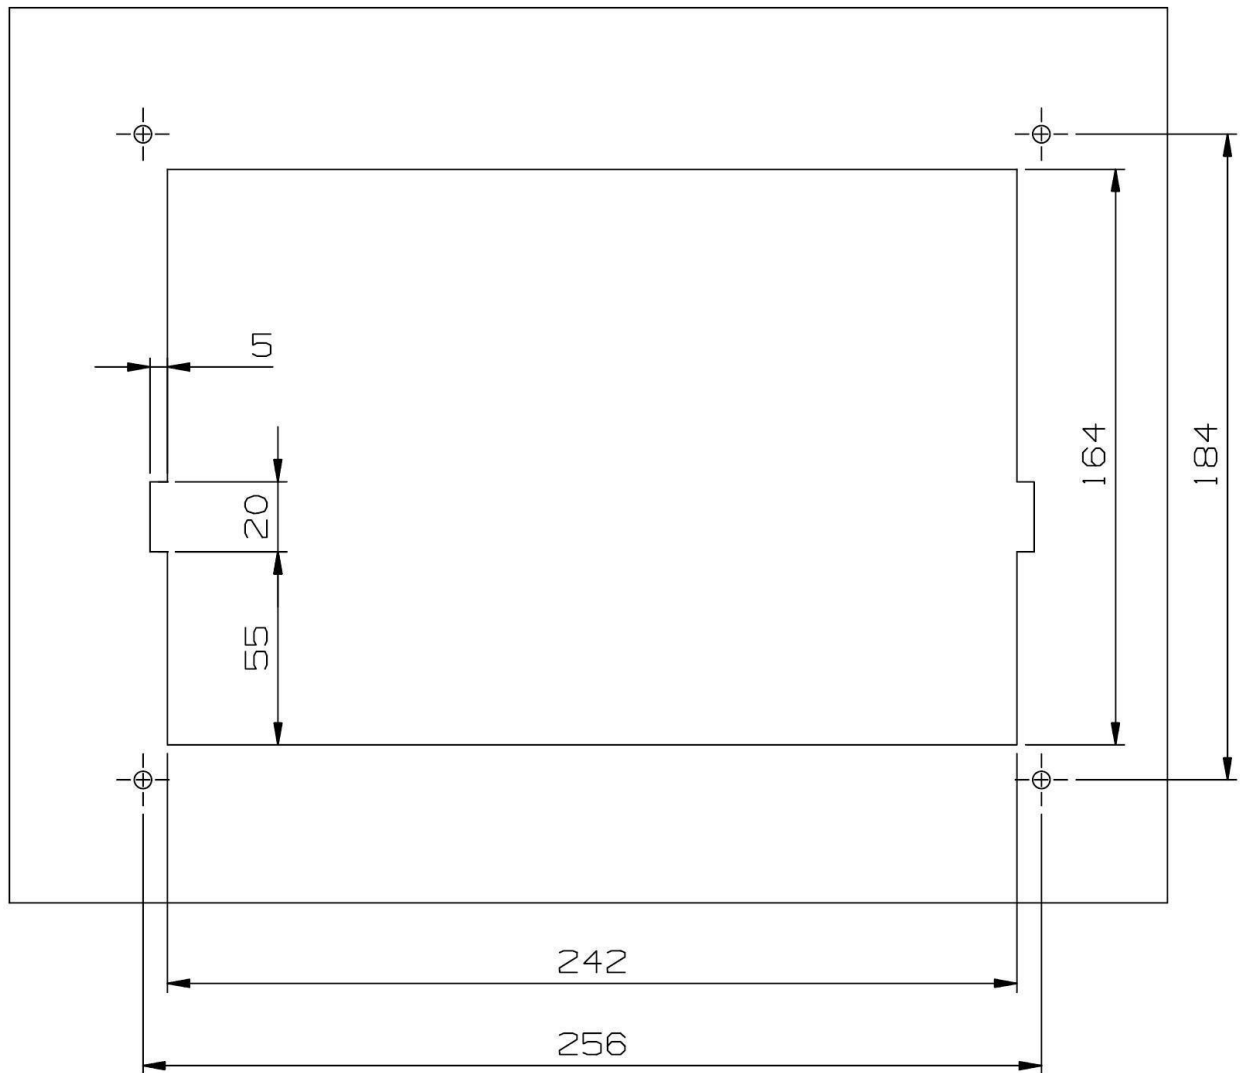

Figure 4-6: Panel mount hole dimensions
2. Make one rectangular hole and four round holes in the panel, as illustrated in Figure 4-6. (If the hole template is available, place the template in the right position and drill and saw according to the template. If this method is used, exclude step 3 and 4 in this instruction.)